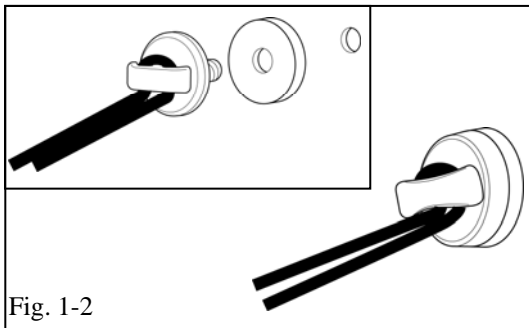

Fig. 1-2
(1) Make sure the T-anchor is in the horizontal position when tightened (Fig. 1-2).
(c) Attach the loop at the top of the net to the T-anchor as shown. (Fig. 1-2)